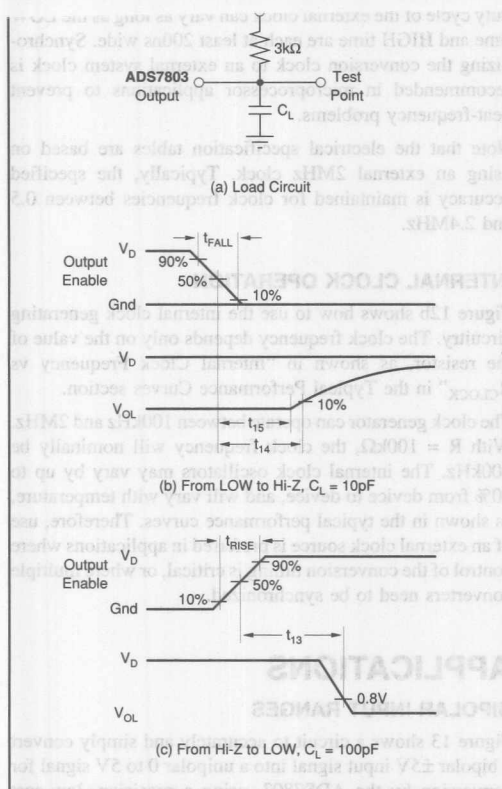

FIGURE 8. Measuring Active LOW to/from Hi-Z State.
NOTES: (1) All input control signals are specified with $t_{\text{RISE}} = t_{\text{FALL}} = 20\text{ns}$ (10% to 90% of 5V) and timed from a voltage level of 1.6V. Data is timed from V_{IH} , V_{IL} , V_{OH} or V_{OL} . (2) The internal $\overline{\text{RD}}$ pulse is performed by a NOR wiring of $\overline{\text{CS}}$ and $\overline{\text{RD}}$. The internal $\overline{\text{WR}}$ pulse is performed by a NOR wiring of $\overline{\text{CS}}$ and $\overline{\text{WR}}$. (3) Figures 8 and 9 show the measurement circuits and pulse diagrams for testing transitions to and from Hi-Z states.